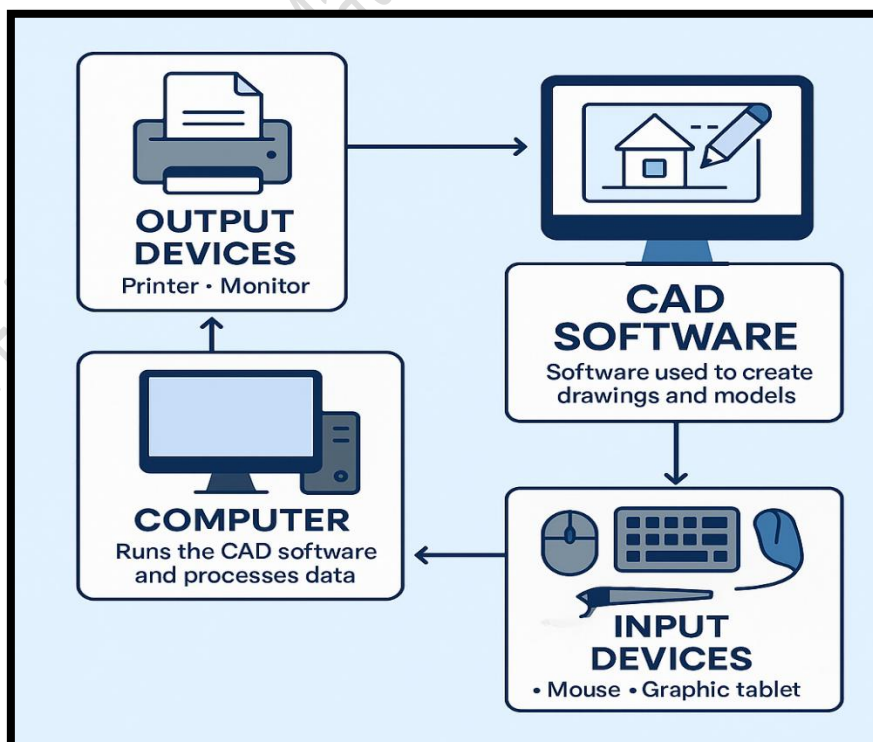

Figure 1.2: Computer Interaction with CAD Software
- **Windows Operating System (OS):** The most crucial piece of software on your computer is this one. Consider it your computer's manager. It manages everything, including file organization and the operation of your CAD program. It provides a user-friendly visual interface (with windows and icons) for communicating with the computer's hardware. Your computer is nothing more than a box of parts without an operating system.
- **File Management System:** This is a part of your operating system (like "File Explorer" in Windows). It's your digital filing cabinet! It helps you create, rename, move, copy, and delete your digital files and folders, keeping your designs organized and easy to find later. Figure 1.2 shows the computer interaction with CAD software.